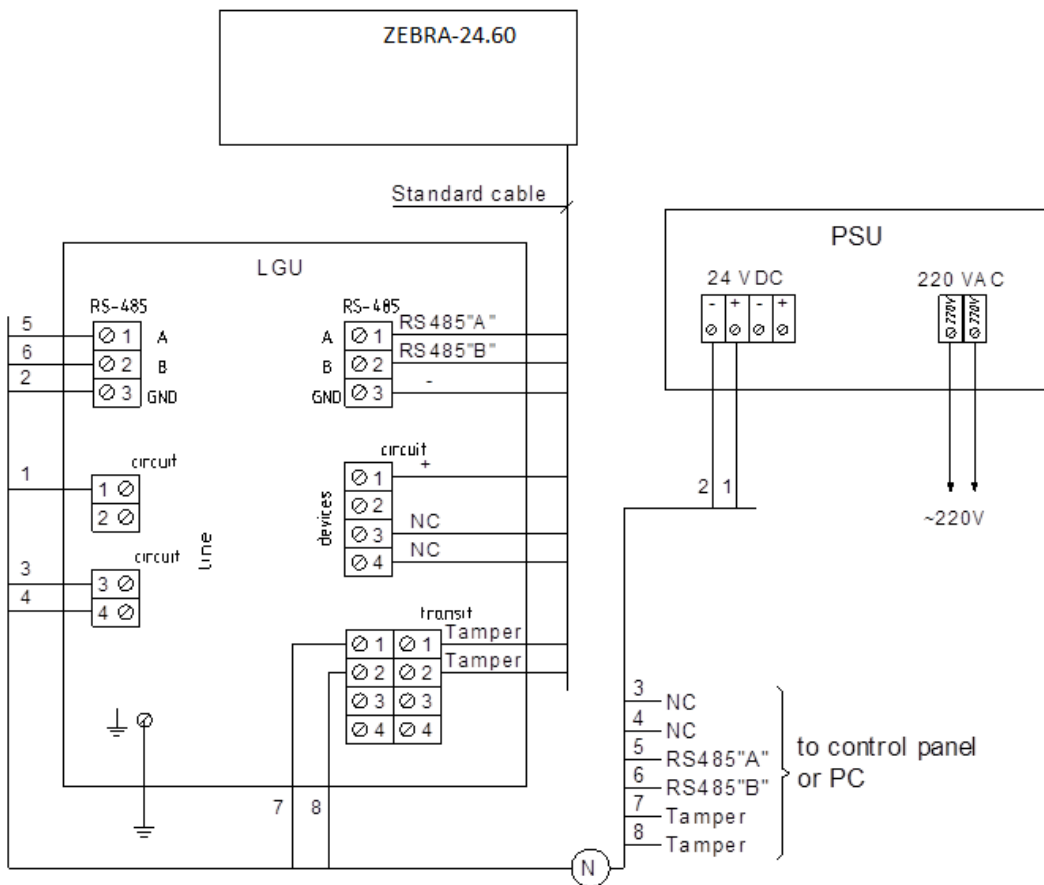

Figure 2.6 – Connection diagram using LGU
2.3.6.4 Figure 2.6 shows the connection diagram using the lightning guard unit (LGU)